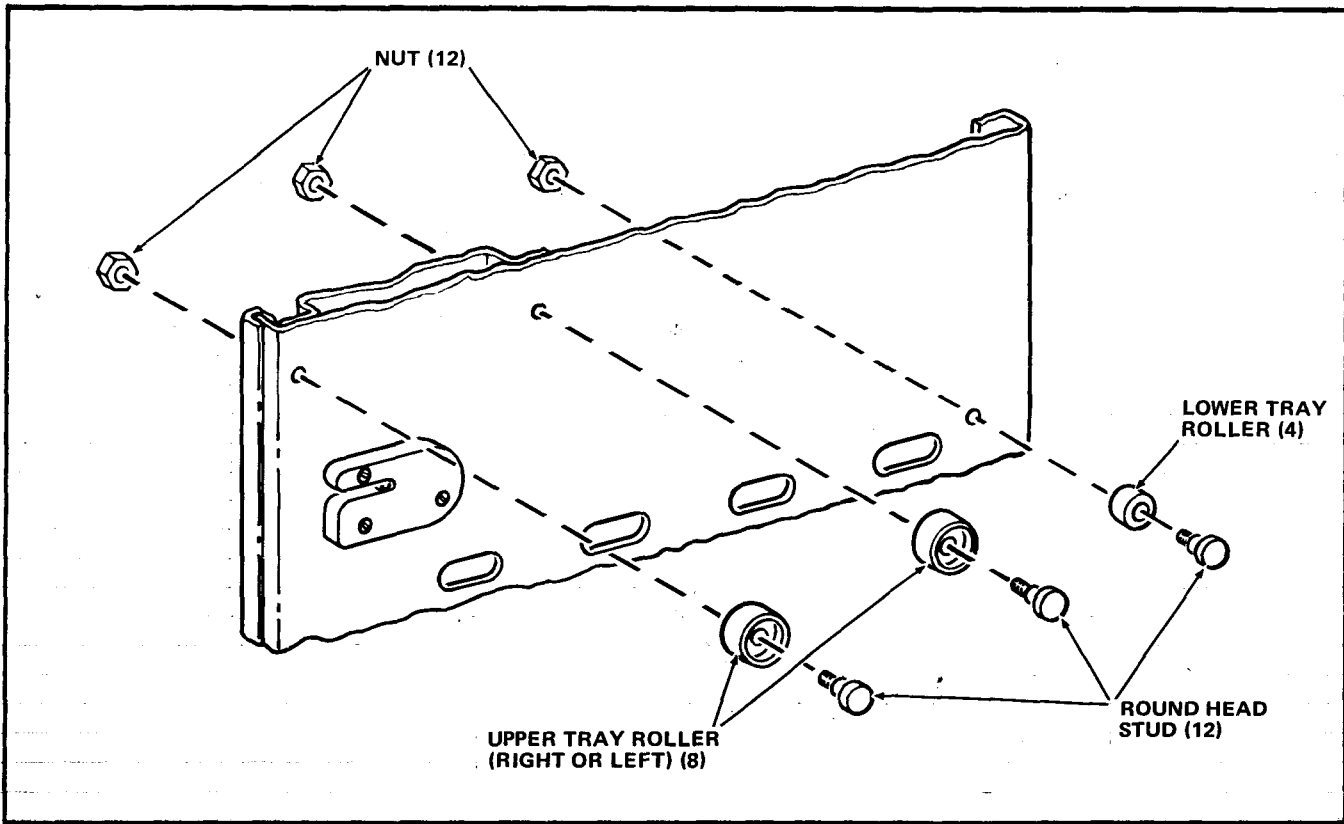

FIGURE 4
20. Remove twelve Nuts, twelve Round Head Studs and the eight Upper Left Tray Rollers and four Lower Tray Rollers from the Left Tray Support Assembly. Discard the twelve Nuts and Round Head Studs. See Figure 4.
27. Remove twelve Nuts, twelve Round Head Studs and the eight Upper Right Tray Rollers and four Lower Tray Rollers from the Right Tray Support Assembly. Discard the twelve Nuts and Round Head Studs. See Figure 4.